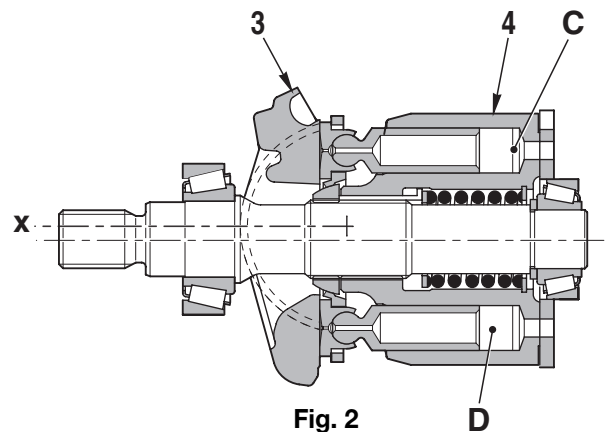

Fig. 2
- 3 - When the axis X of the swash plate (3) is parallel to the axis of the cylinder block (4) (swash plate angle « α »=0), the difference between the volumes C and D inside the cylinder block (6) is zero and no oil is pumped (Fig. 2).